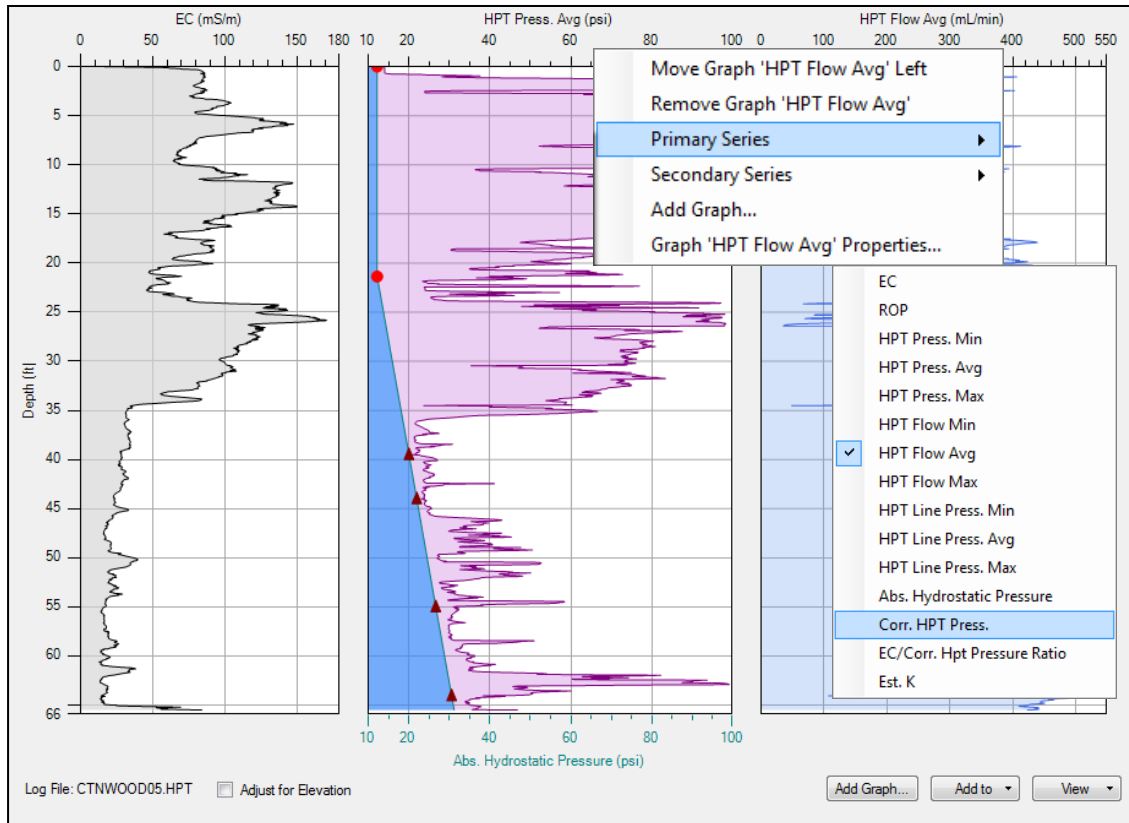
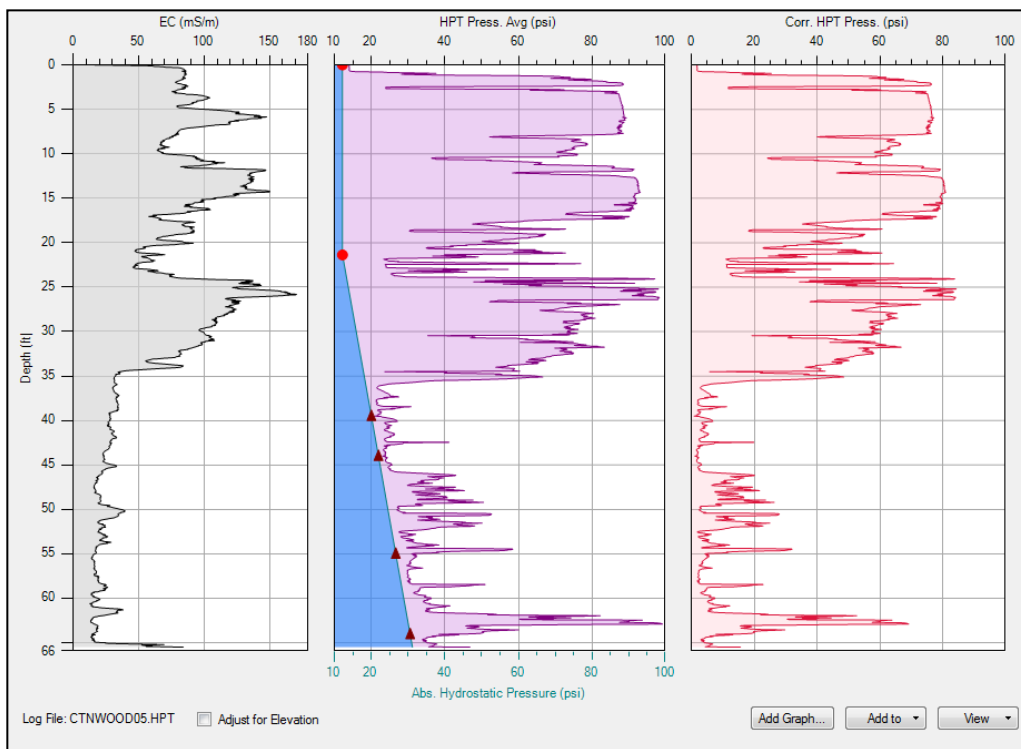

Figure 26: HPT log with the absolute hydrostatic pressure line (blue fill) plotted over the HPT pressure log.
Figure 27: HPT log with corrected HPT Pressure graph (right).
When the second selection is made the log will update and the absolute hydrostatic pressure line will be plotted over the HPT pressure graph (Figure 26).
1. Right click on a graph and select the *Primary Series* option (Figure 26). This will replace the existing HPT Flow graph with the Corrected HPT Pressure graph. Alternatively, you can select the “Add Graph” tab in the lower right corner of the screen.
The log plot will be updated, and the corrected HPT pressure graph will be plotted (Figure 27). The corrected HPT pressure is calculated by subtracting the atmospheric + hydrostatic pressure from the Average HPT Pressure log at each depth increment. This provides a plot of the pressure required to inject water into the formation at each depth increment along the log.
An HPT log was run about 7ft (2.1m) from a well. The well and log location are at the same elevation. The well is screened from 10 to 20ft below grade and the static water level was measured at 3.8ft below grade (Figure 26). From the pre-log reference test the local atmospheric pressure was determined to be 13.30psi (Figure 27). We know that for 10ft of water the hydrostatic pressure rises approximately 4.33psi. For this location at a depth of 13.8ft the hydrostatic pressure would be: